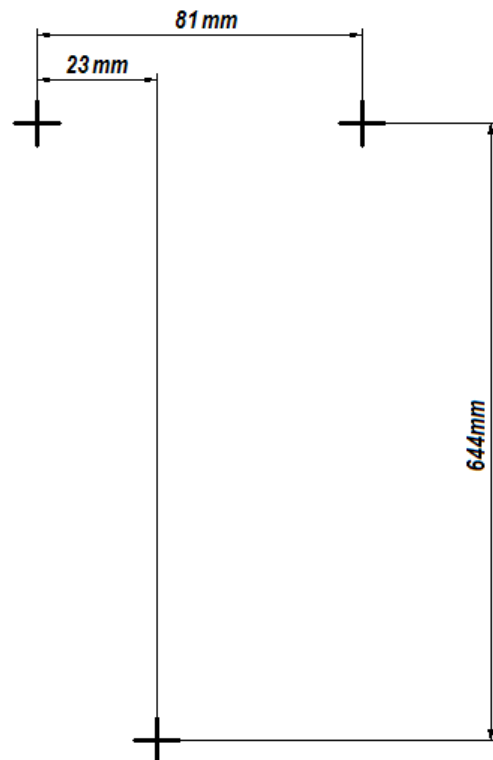

Fig. 2. Diagram of spacing between  $\varnothing 10$  openings necessary for attaching the pump control unit
- Attach the pump and control unit to the wall using 3 anchor screws in spacing as presented in **Figure 2**.